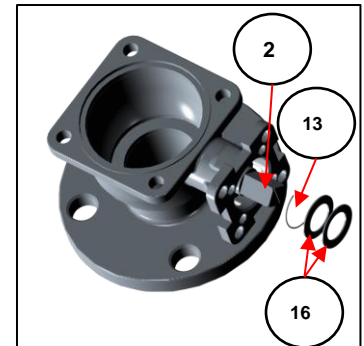

Figure 4-26
- 4.4.9 Place the two (2) disc springs (item 16) on top of one another so that the concave surfaces are facing each other. Then place the disc springs on the stem (item 2). (Figure 4-26)